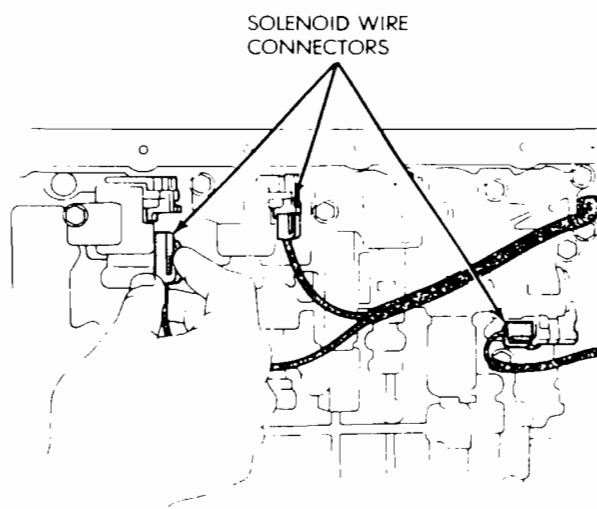
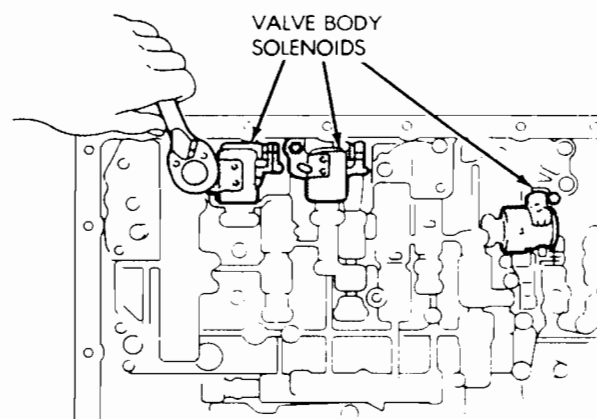

Fig. 7 Solenoid Wire Connectors
Fig. 8 Valve Body Solenoids
- (4) Disconnect solenoid wire connector (Fig. 7).
- (5) If all solenoids are being removed, mark or tag wires for assembly reference before disconnecting them.
- (6) Remove bolt attaching solenoids to valve body and remove solenoids (Fig. 8). Do not allow any valve body components to fall out when solenoids are removed.
- (7) Clean oil filter and pan with solvent and dry with compressed air.
- (8) Remove old gasket material from oil pan and transmission case.
(1) Remove oil pan and oil screen. Refer to Solenoid Removal procedure.
(2) Disconnect solenoid wire connectors (Fig. 7).